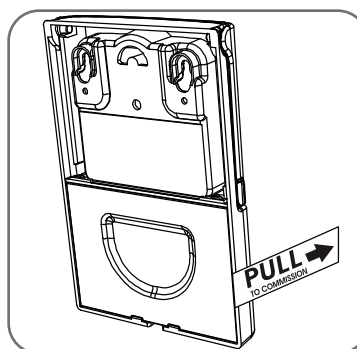

Fig.6.7.2
- Turn the wall control over and pull the tab to commission the battery. (**Fig 6.7.2**)